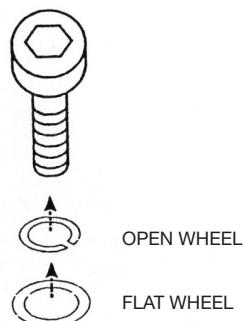

Fig. 2
- Proceed with inserting of the screws - be sure that the rings of the screws are correctly inserted (Fig. 2).